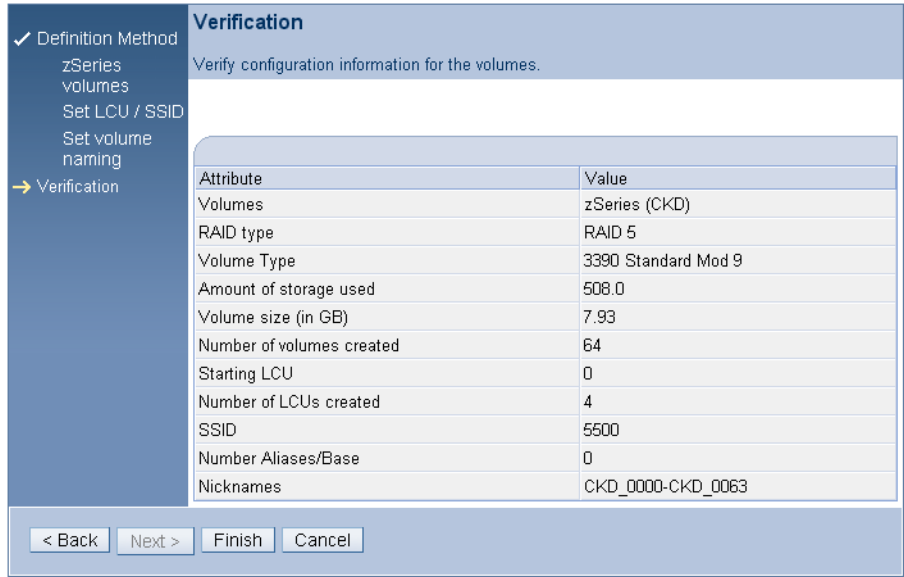

Figure 11-18 Express configuration: Verification window for System z configuration
- The final window, Figure 11-18, is a verification window where you can verify your selections before the configuration is applied to the real-time or simulated Storage Unit by selecting **Finish**. The Express configuration wizard will then configure the required amount of storage from the available unconfigured storage capacity depending on your selections and create the necessary number of Arrays, Ranks, and Extent Pools as well as the volumes and LCUs.